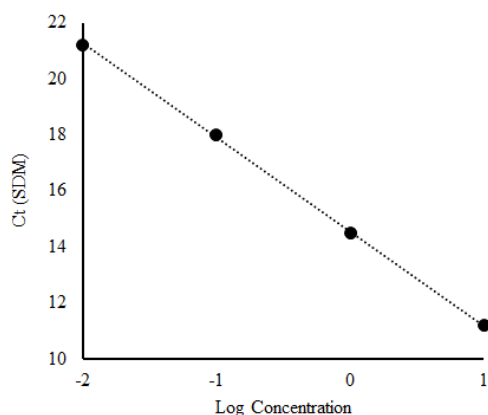

Figure 2. Typical standard curve.
- Plot the average C_t (SDM) values for the four DNA Standards versus concentration (10, 1, 0.1, and 0.01 pM, in log scale) to generate a standard curve. Typically, the coefficient of determination (R^2) should be ≥ 0.98 , and the reaction efficiency should be $\geq 90\%$ (Figure 2).